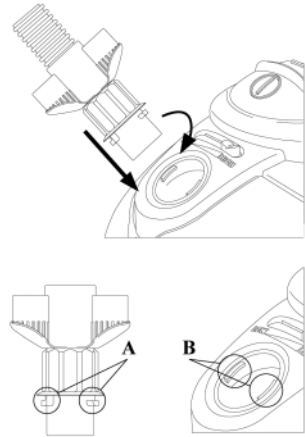

FIGURE 5
1) Insert Inlet Nozzle of Flexible Hose into Inlet Nozzle Hole on main unit as shown (FIGURE 5). Insert it so that guides on sides of Inlet Nozzle (FIGURE 5-A) fit between tabs inside Inlet Nozzle Hole (FIGURE 5-B). Turn Inlet Nozzle clockwise until snug.